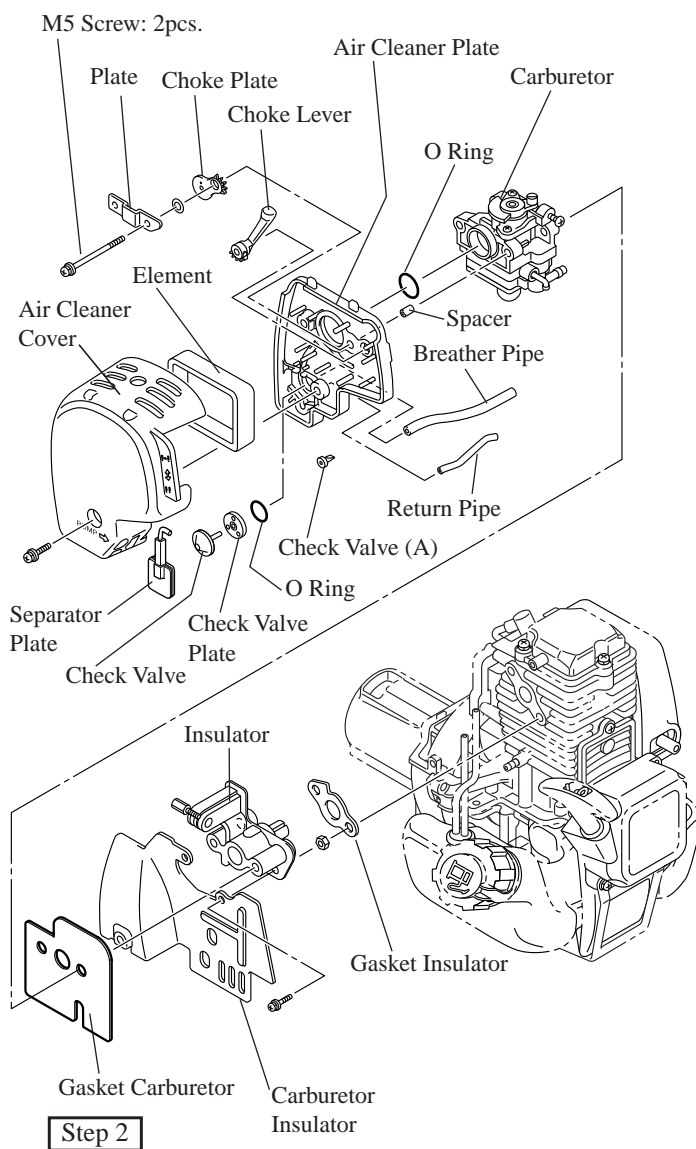
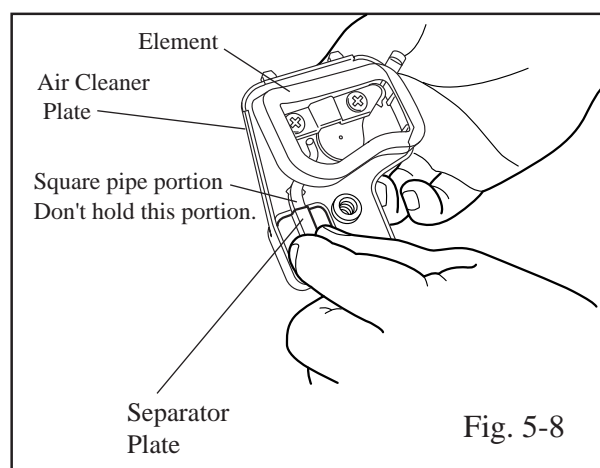

Fig. 5-6
Fig. 5-8
* Breather unit of the air cleaner (plate separator, check valve) * Under ordinary circumstances, refrain from disassembling the air of cleaner breather unit. Make sure disassembling the air cleaner breather unit only if necessary.	1) Remove separator plate. See Fig. 5-6. Separator plate has to be removed by holding its edge, instead of square pipe portion. Otherwise, the square pipe portion may be damaged. See Fig. 5-8. 2) Remove the check valve plate (fastened together with the check valve) with a small-sized screwdriver. It is recommended to pry the hook of check valve plate with a screwdriver to facilitate the removing work. 3) Remove check valve (A) from air cleaner plate. See Fig. 5-6.